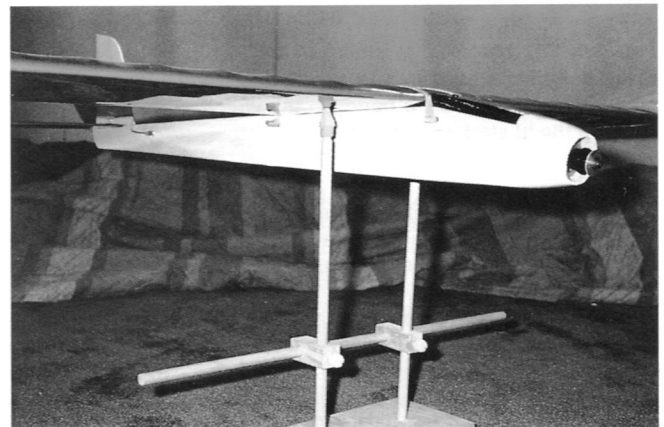

Fig. 4-3. This simple device makes it easy to check the CG (center of gravity). As you can see, this plane balances right on the appropriate CG.
Occasionally the center of gravity (CG) of your airplane may need to be changed, fig. 4-3. The model should be balanced at the point that is recommended in the instructions. During your test flights, you may notice that the plane glides quickly and lands soon after launching. It also may need a lot of up elevator when landing. This indicates the plane is nose heavy. Rearrange the radio components or remove a little nose weight to move the CG back only about $\frac{1}{8}$ " to $\frac{1}{4}$ ". Test fly your plane again. If needed, move the CG back again no more than $\frac{1}{4}$ " at a time. Your plane is properly balanced when it glides easily with smooth control for a good distance.